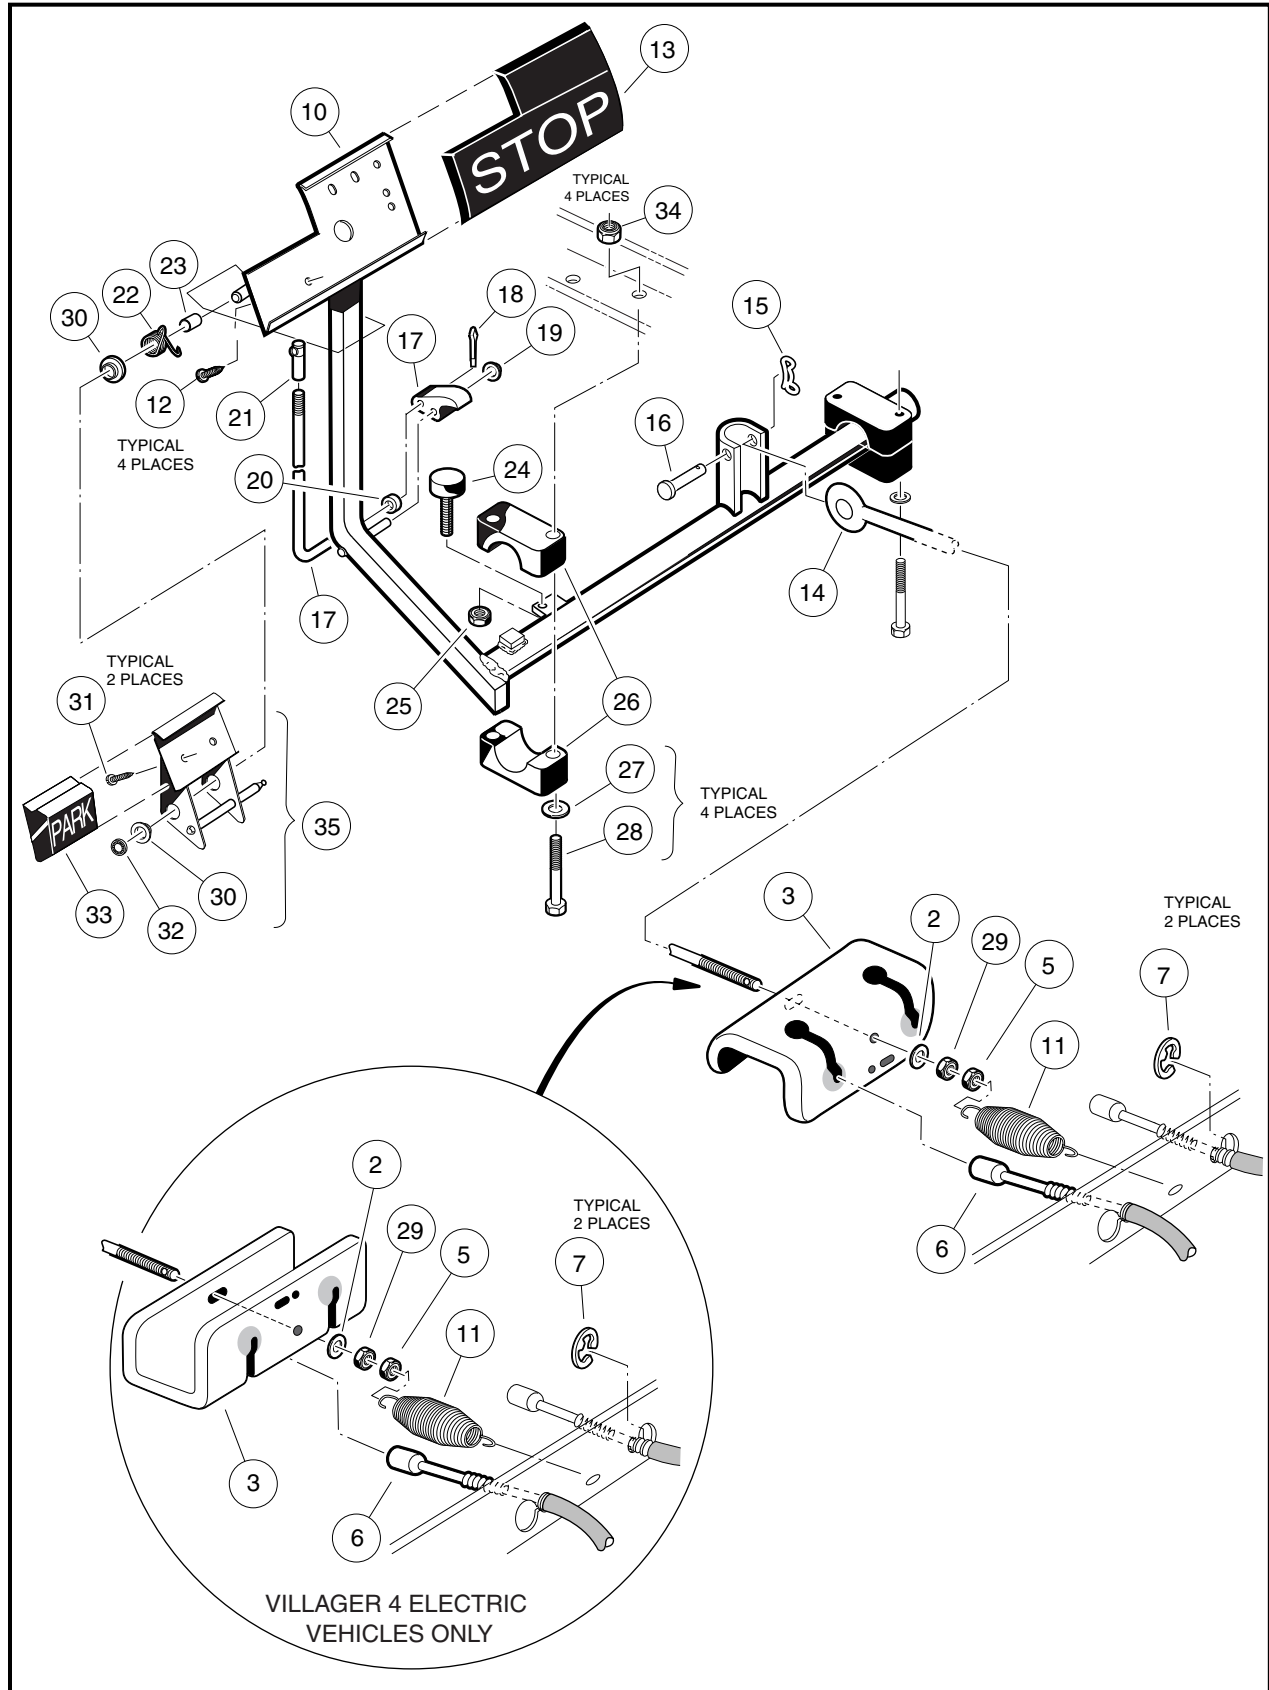
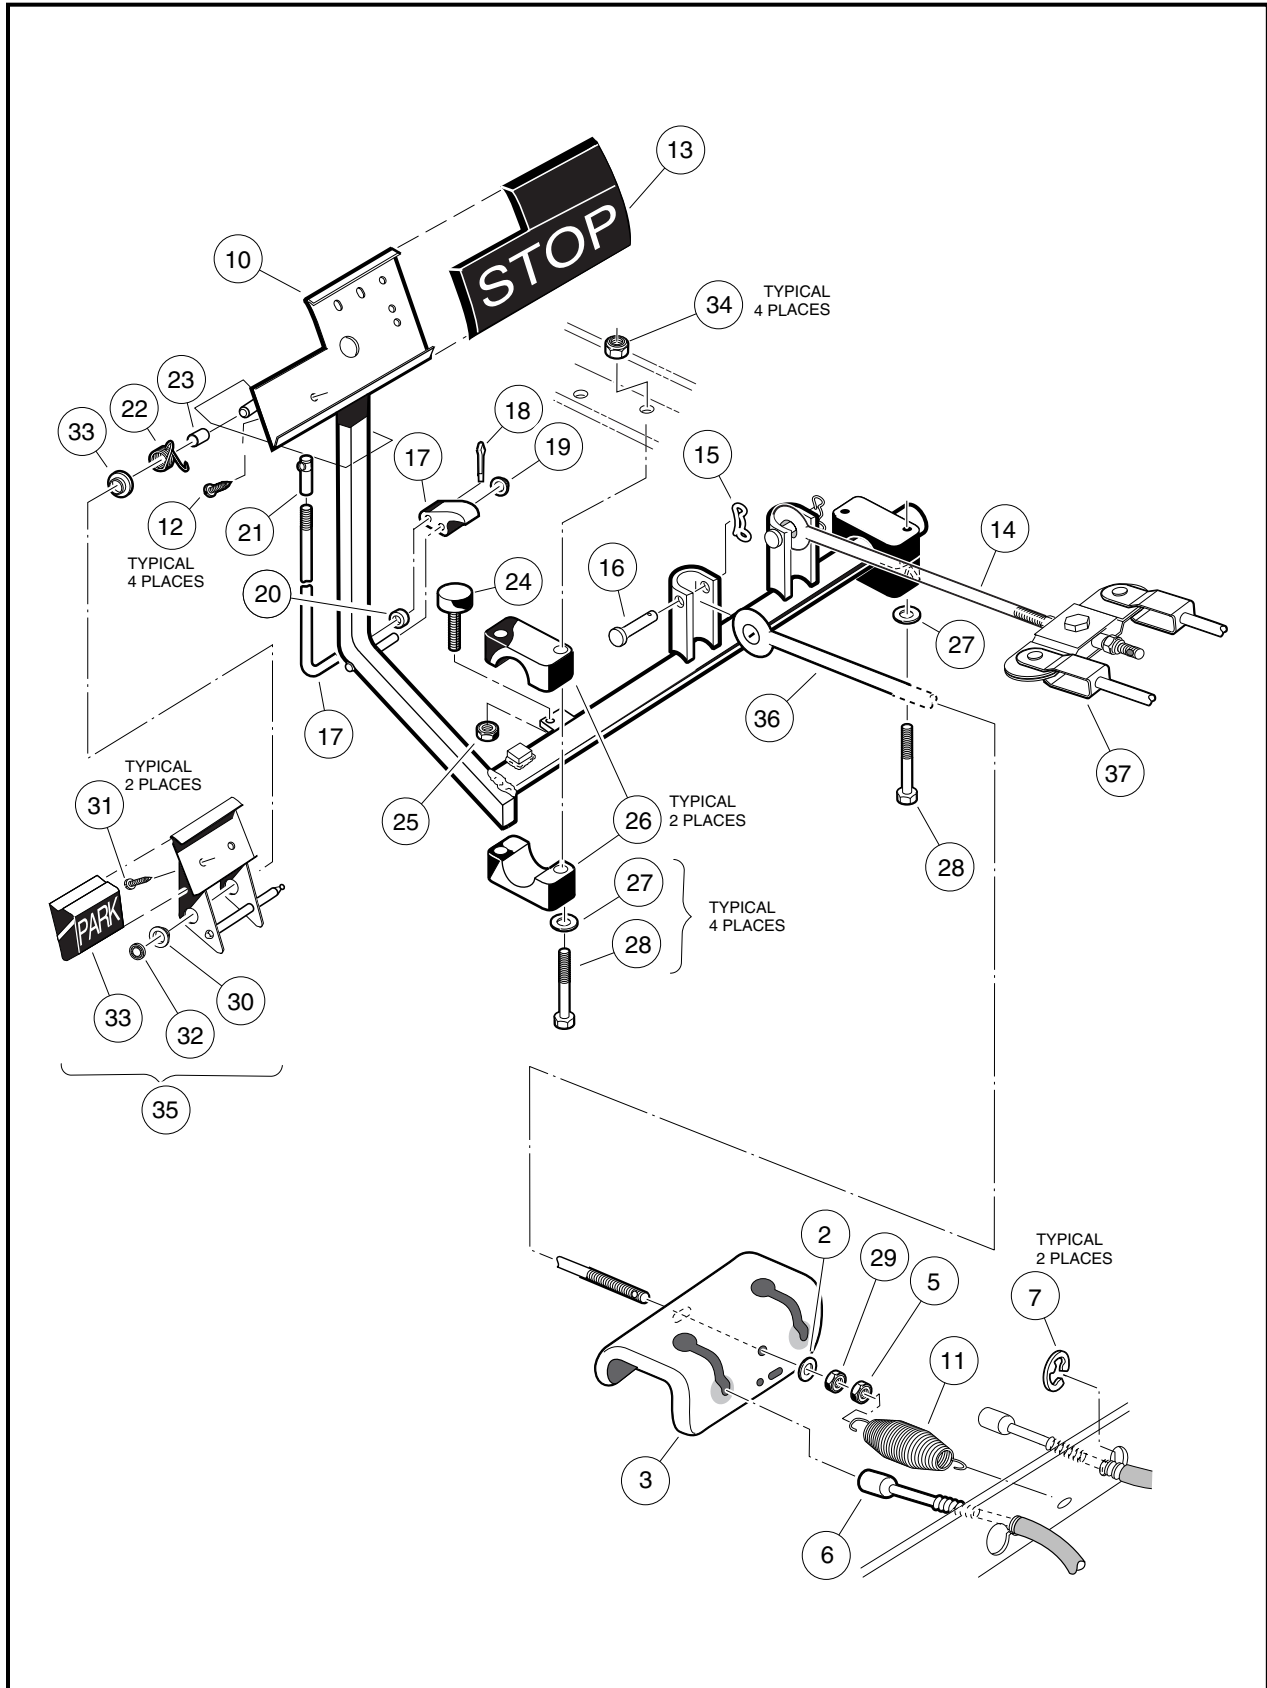
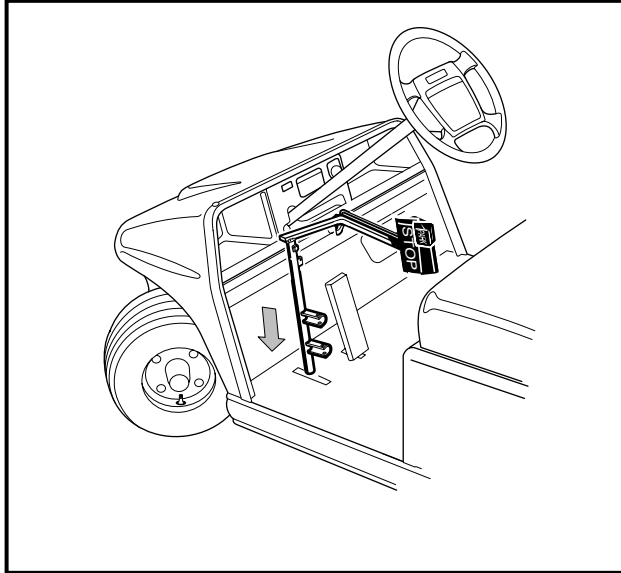

Figure 5-1 Brake and Park Brake Pedal Assembly and Mounting – Two-Wheel Brake Vehicles
Figure 5-2 Brake and Park Brake Pedal Assembly and Mounting – Four-Wheel Brake Vehicles
Figure 5-3 Brake Pedal Weldment Through Floor
- 3.1. Disconnect the equalizer rod(s) (14 and 36) from the pedal shaft by removing the clevis pin(s) (16) and bow-tie pin(s) (15) (**Figure 5-1, Page 5-2 or Figure 5-2, Page 5-3**).
- 3.2. Remove the nuts (34), flat washers (27), bolts (28), and mounting blocks (26). If the mounting blocks (26) show signs of excessive wear or are damaged, they must be replaced with new ones before installing pedal assembly (**Figure 5-1, Page 5-2 or Figure 5-2, Page 5-3**).
- 3.3. Remove the nut (25) and brake stop bumper (24) (**Figure 5-1, Page 5-2 or Figure 5-2, Page 5-3**).
- 3.4. Lift the pedal assembly (10) through the floorboard (**Figure 5-3, Page 5-4**).
1. From the top side of the floorboard, insert the brake pedal assembly (10) (**Figure 5-1, Page 5-2 or Figure 5-2, Page 5-3**) through the opening in the floor as shown (**Figure 5-3, Page 5-4**) and install the brake pedal stop bumper (24) (**Figure 5-1, Page 5-2 or Figure 5-2, Page 5-3**) on the brake pedal assembly, but do not tighten the jam nut (25) at this time.
2. Secure the equalizer rod(s) (14 and 36) to the brake pedal assembly (10) with clevis pin(s) (16) and bow-tie pin(s) (15) as shown (**Figure 5-1, Page 5-2 or Figure 5-2, Page 5-3**). **See following NOTE.**
3. Position and attach brake pedal assembly, mounting blocks (26), and washers (27) to vehicle frame as shown. Tighten the bolts and nuts to 113 in-lb (12.8 N·m) (**Figure 5-1, Page 5-2 or Figure 5-2, Page 5-3**).
- 3.1. To remove the park brake rod and pawl assembly (17 through 20), remove the push nut (19) and disconnect the ball joint sleeve (21) from the park brake pedal (35) (**Figure 5-1, Page 5-2 and Figure 5-2, Page 5-3**). **See following NOTE.**